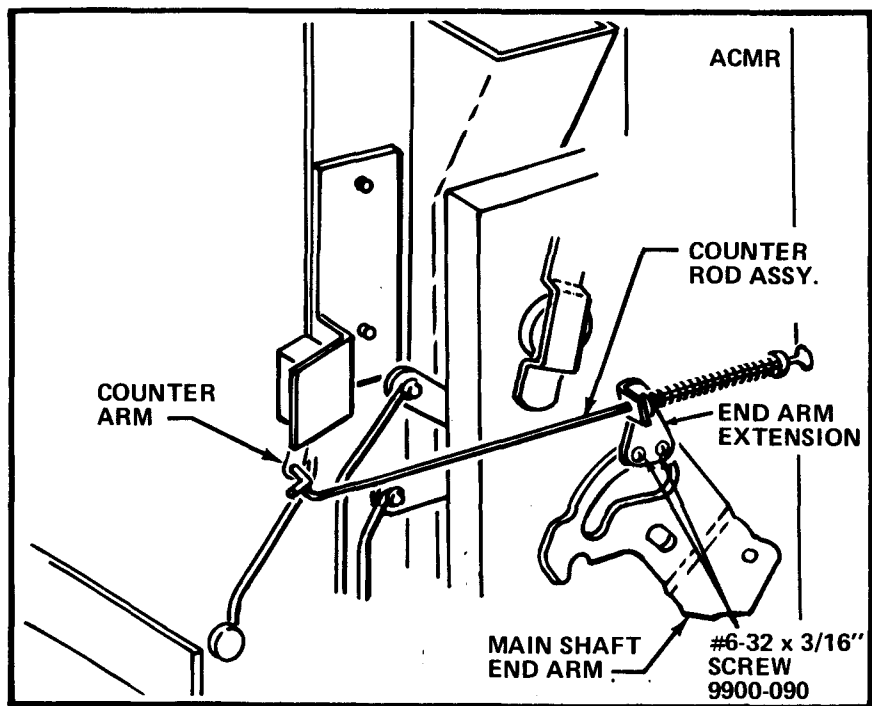

Figure 3
7. Attach the End Arm Extension to the Main Shaft End Arm with the two #6-32 x 3/16" Round Head Slotted Screws with Lockwasher, part number 9900-090, included in the Kit. See Figure 3.